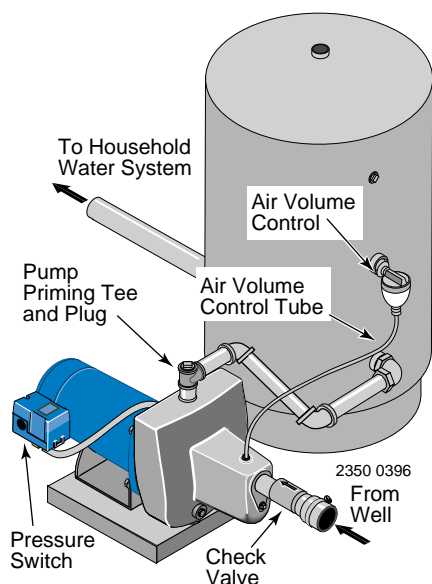

Figure 5: Standard Tank Connections
STANDARD TANK CONNECTION (Figure 5)
- Step 1. Install one tee in the pump discharge port (see Figure 5).
- Step 3. Remove the 1/8" NPT pipe plug from the pump Air Volume Control (AVC) port (see Figure 5). Run tubing from the pump's AVC port (see Figure 5) to the port on the AVC mounted on the tank. See instructions provided with tank and AVC for details. AVC port location will vary, depending on your pump model (see exploded views, Page 10).